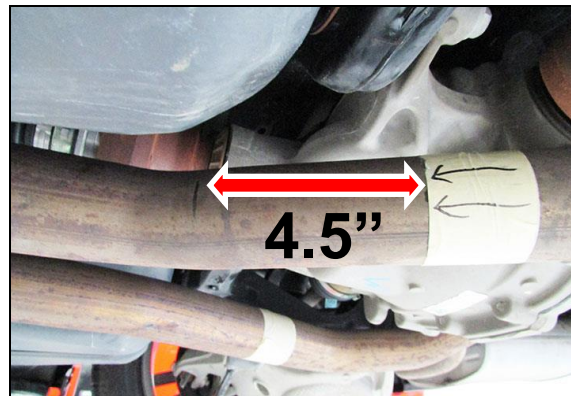

Figure 2
4. With a permanent marker, locate the tangent line (where the bend ends and the straight section of pipe begins) of the left side OE mid pipe and mark a straight line. Now, mark another straight line exactly 4.5" after your tangent mark (4.5" towards the direction of the rear of the vehicle). We suggest using masking tape to wrap around the OE mid pipe to ensure a straight cut. Draw arrows to ensure that you cut the correct side of the masking tape (Figure 2). **DOUBLE CHECK AND MEASURE TWICE BEFORE CUTTING.**